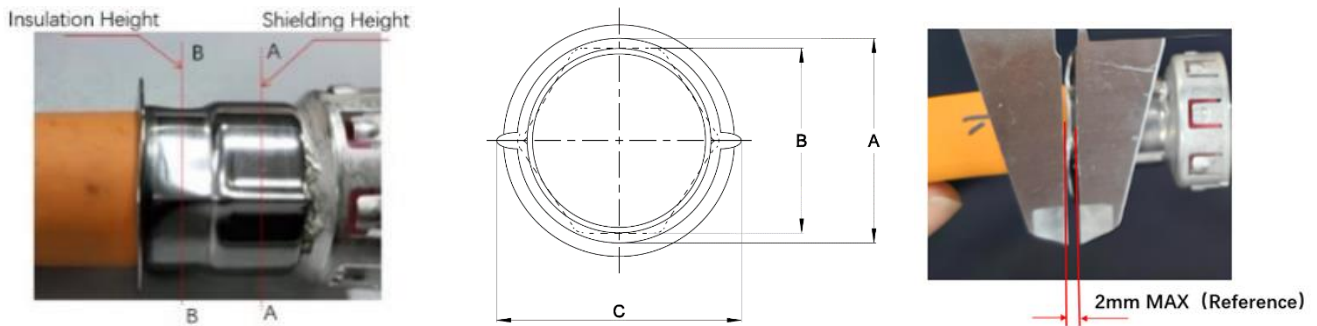

Figure 11: round crimp for shielding and hex crimp for insulation crimp
- After shielding crimp, flange deformation should not exceed 2mm (refer to Fig 11)
- 压接后，法兰盘变形不能超过2mm（参照图11）